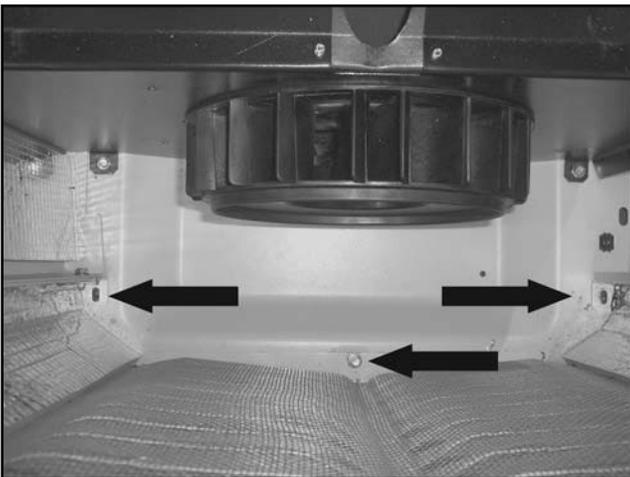

Figure 28.
6. Remove Left-side enclosure: Using a 10mm ratchet wrench remove the horizontal 10mm bolt that connects the side panel to the back panel. Using a 10mm socket, remove three bolts from the base of the enclosure. See Figure 28. Using a 10mm socket and wrench remove the top hinge bolt and loosen the bottom bolt. See Figure 29. Holding the roof, remove the bottom hinge bolt, remove the side panel by sliding it forward then re-install the hinge bolt.